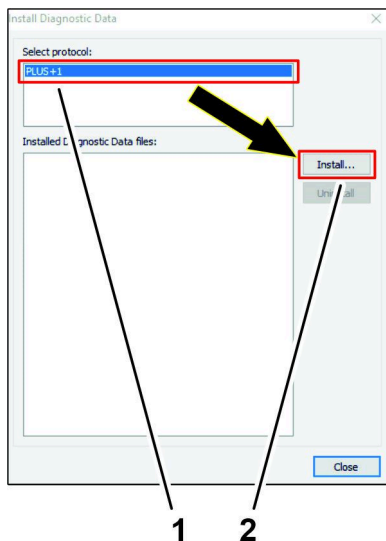

Figure 42
3. In the Install Diagnostic Data dialog box, click the PLUS+1 protocol icon, and press the INSTALL icon (Figure 42).